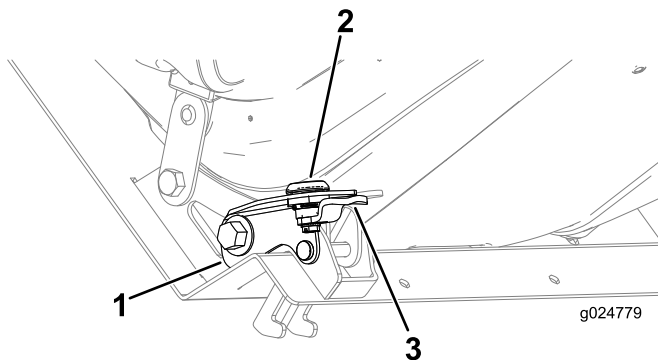

Figure 61
- Ensure that the grip of the lock-mount bracket and the latch is facing up (Figure 61).